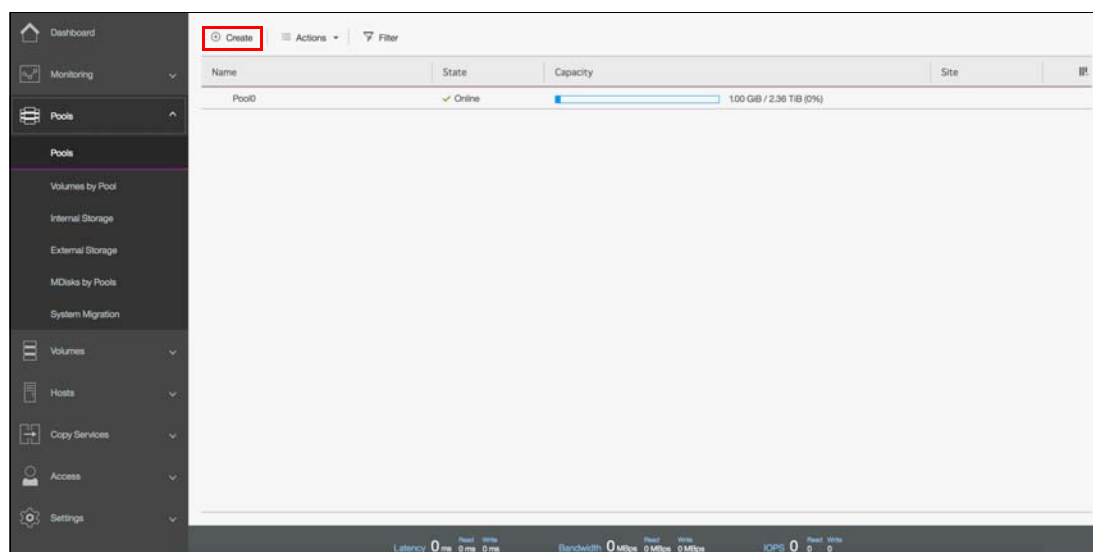

Figure 4-20 Create button on Pools panel
- Navigate to **Pools** → **Pools** and click **Create**, as shown in Figure 4-20.